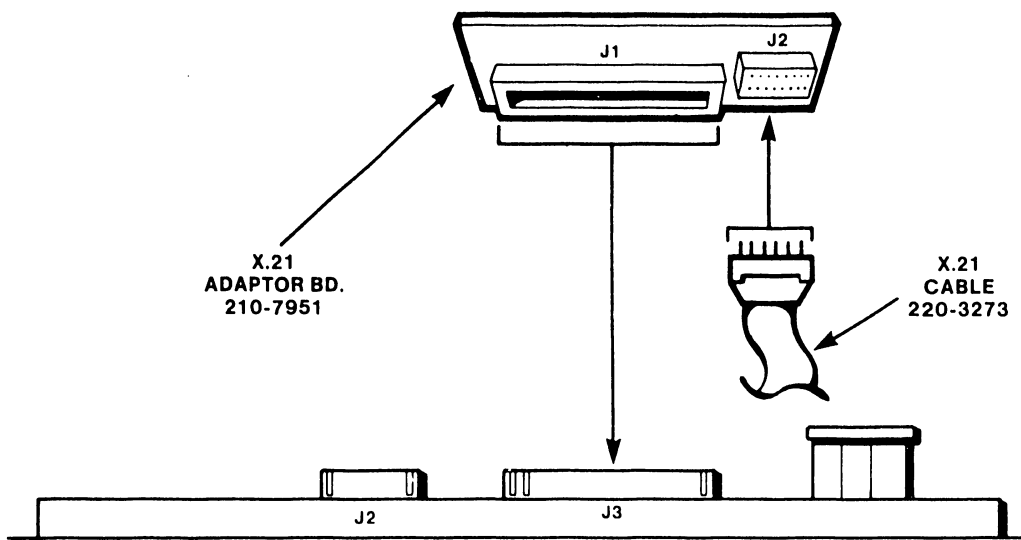

Figure 4-11 X.21 Interface Adaptor Board Installation
3. Carefully insert the X.21 DIP connector into J2 of the X.21 Adapter Board (P/N 210-7951) as shown in Figure 4-11. Ensure pin alignment.
4. Connect the X.21 adapter board to the RS-449 connector (J3) of the TC controller as shown in Figure 4-11.